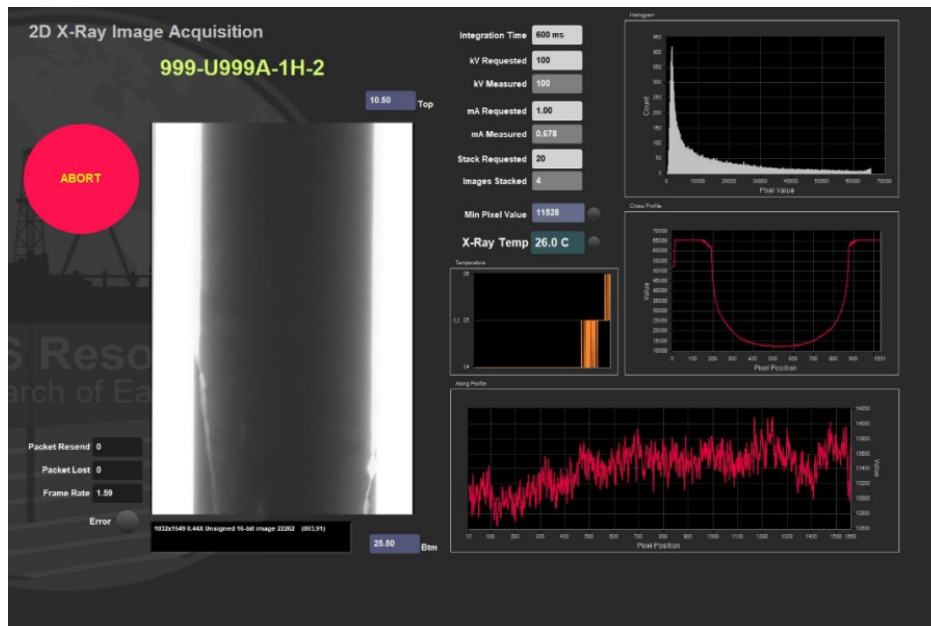

Figure 7. IMS display during imaging.
9. The instrument will move each section down the track system, automatically taking images along section (Figure 7). This continues, until the actuator reaches its limit switch and returns to it's home position.